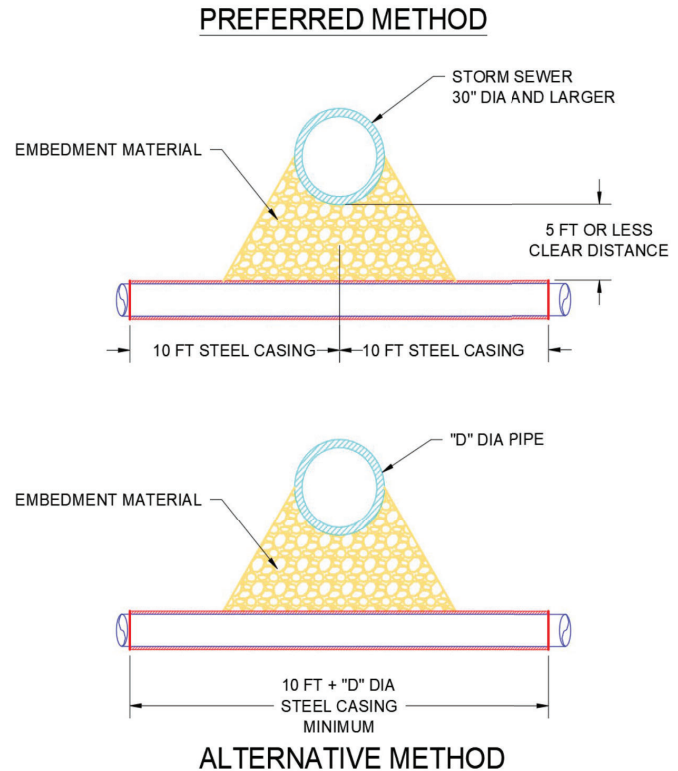

Figure 21- Large Mains Crossing
- 4.10. All public wastewater mains that cross under storm sewer mains thirty (30) inch and larger, must be steel encased a minimum of twenty (20) feet centered under the storm sewer if the vertical distance between the storm drain and public wastewater main is less than five (5) feet. Embedment material or "Type-A" stone backfill is required under the crossing pipe and above the casing of the public wastewater main. If the horizontal alignment is such that twenty (20) feet of steel casing cannot be maintained, a minimum length of five (5) feet past the diameter of the storm pipe on each side of the pipe is required. These crossing requirements must be indicated and labeled on all design drawings submitted for review and approval. See Figure 21.